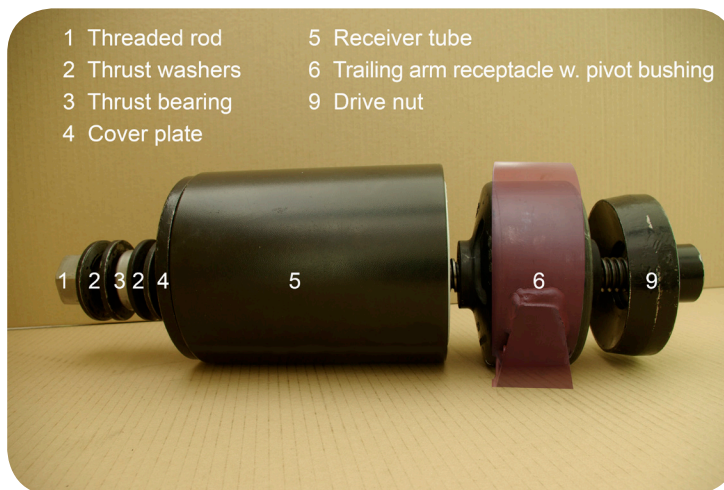

Fig. 1 · Identification of removal tool components
The pivot bushing removal tool (hereafter abbreviated to removal tool) consists of a hex-head threaded rod (1), two thrust washers (2), a thrust bearing (3), two more thrust washers (2), a cover plate (4), a receiver tube (5), a trailing arm receptacle w. pivot bushing (6), and a drive nut (9), as illustrated in Figure 1.